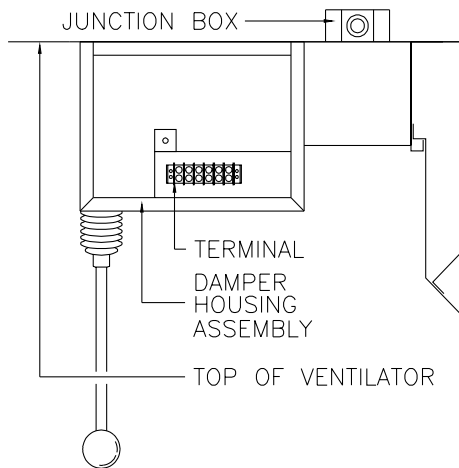

Fig. 13
C. Dampers & Detectors [AW & optional AX Models] [Fig. 13]